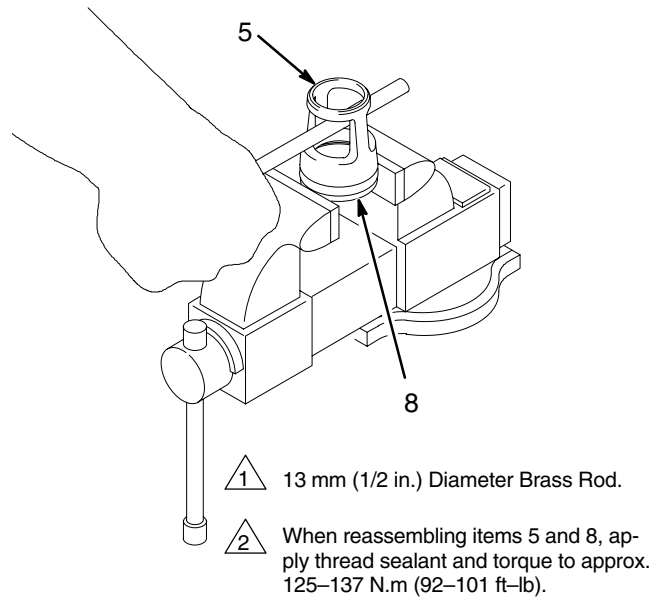

Fig. 9
14. Remove the displacement rod (1) from the vise and inspect it for scratches and scoring by running a finger over the surface.
15. Place the piston seat and guide assembly in the vise and close the jaws on the flats of the seat (8) just tight enough to hold the part. Slide a brass rod through the openings in the piston guide (5) and unscrew it from the seat as shown in Fig. 9. Remove the piston seal (7).
1. Install the intake valve seat (11†) in the intake housing (17), with the large bevel of the seat facing the bottom of the housing. Lubricate the seal (39*†) and install it in the housing. Set the intake housing aside.
2. Install the piston seal (7*) on the piston seat (8). Place the seat in a vise and close the jaws tight enough to hold it securely, without placing too much stress on the part. Apply thread sealant to the threads of the seat and the piston guide (5). Screw the guide onto the seat (8). Tighten using a brass rod until the guide is securely seated, approximately 125–137 N.m (92–101 ft-lb). See Figs. 9 and 11.
3. Place the flats of the piston (6) in a vise. Apply thread sealant to the threads of the rod (1) and the top threads of the piston. Set the piston seat/guide assembly onto the piston.